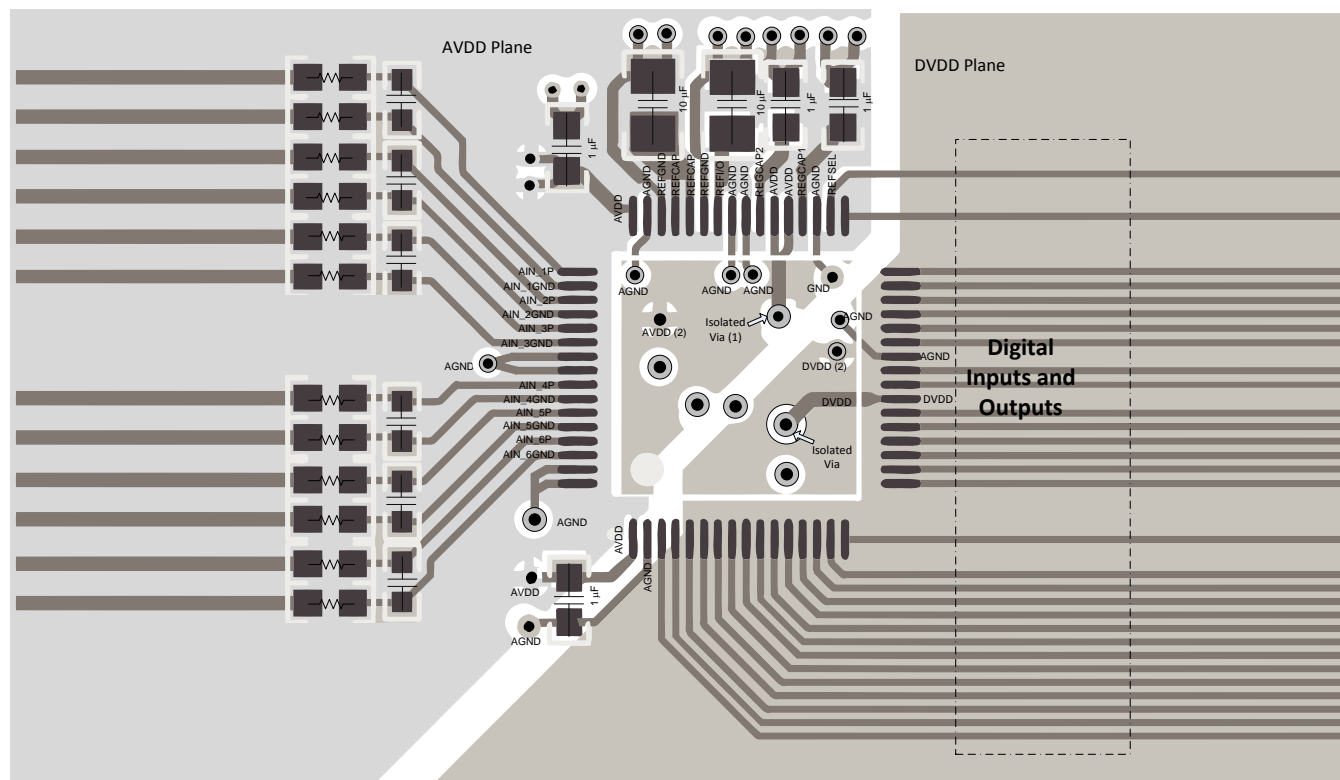
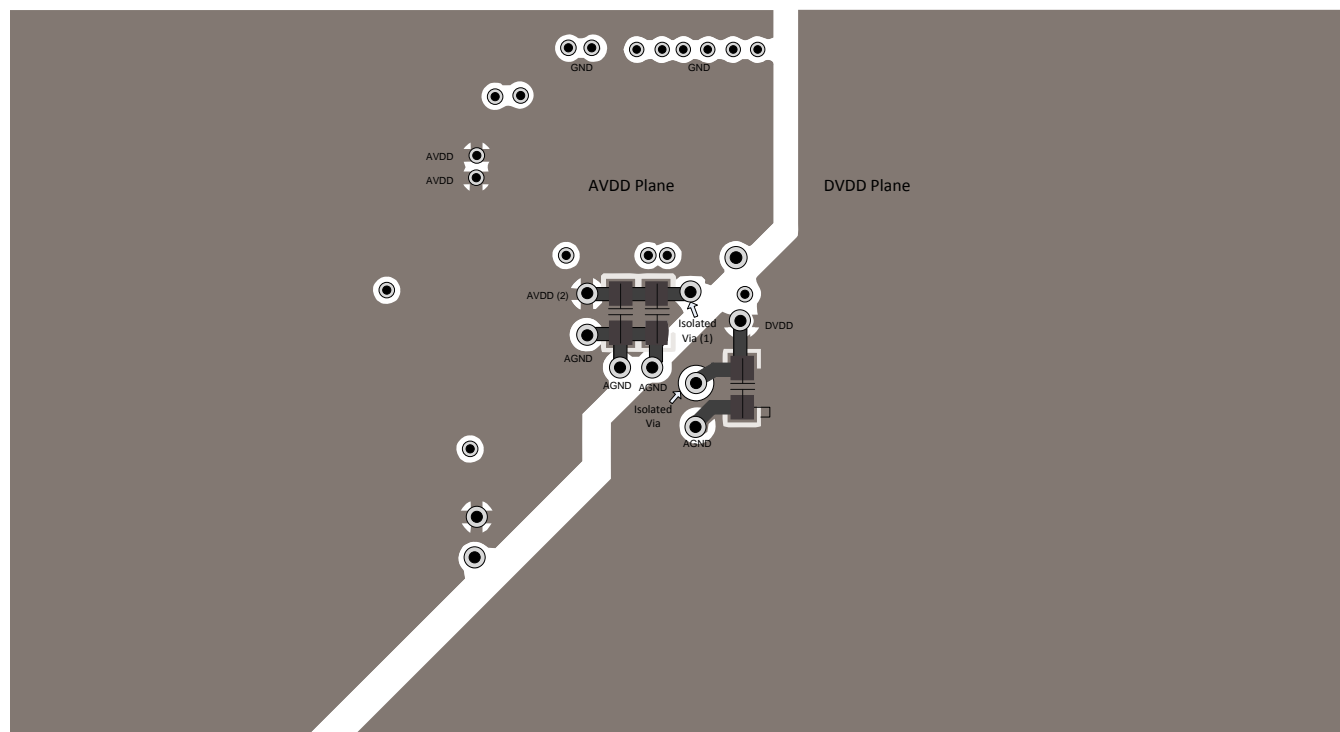

Figure 89. Top Layer Layout
Figure 90. Bottom Layer Layout
Figure 89 and Figure 90 illustrate a PCB layout example for the ADS8578S.
- Power sources to the ADS8578S must be clean and well-bypassed. As a result of dynamic currents during conversion, each AVDD must have a decoupling capacitor to keep the supply voltage stable. Use wide traces or a dedicated analog supply plane to minimize trace inductance and reduce glitches. Using a 1- $\mu$ F, X7R-grade, 0603-size ceramic capacitor is recommended in close proximity to each analog (AVDD) supply pins. Bypass capacitors for AVDD pins 1 and 48 are located on the top layer; see Figure 89. AVDD supply pins 37 and 38 are connected to bypass capacitors in the bottom layer using an isolated via (1); see Figure 90. A separate via (2) is used to connect the bypass capacitor to the AVDD plane.
- For decoupling the digital (DVDD) supply pin, a 1- $\mu$ F, X7R-grade, 0603-size ceramic capacitor is recommended. The DVDD bypass capacitor is located in the bottom layer; see Figure 90.
Figure 89 and Figure 90 illustrate a recommended layout for the ADS8578S along with proper decoupling and reference capacitor placement and connections.